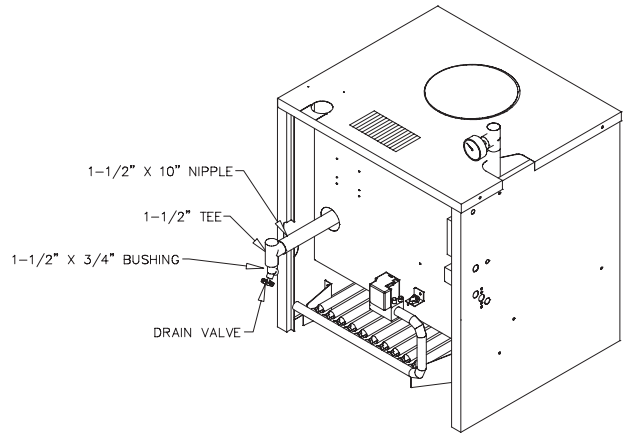

Figure 3.3: Drain Valve Installation
3. Install drain valve. Remove jacket front panel. Install drain valve with tee in return tapping. Nipple, tee, bushing and drain valve are located in trim carton. See Figure 3.3. Tee may be installed with run in either horizontal or vertical orientation.